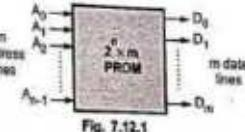

Fig. 7.12.1
- Fig. 7.12.1 shows the block diagram of PROM.